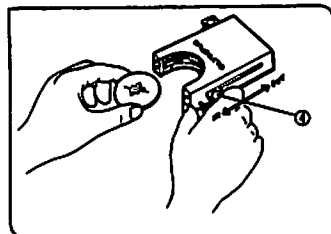

Fig. 26
(Figs. 26, 27, 28, 29)
2. Slide lever ④ to the IN position. Make sure that it clicks securely into place. (Fig. 26)